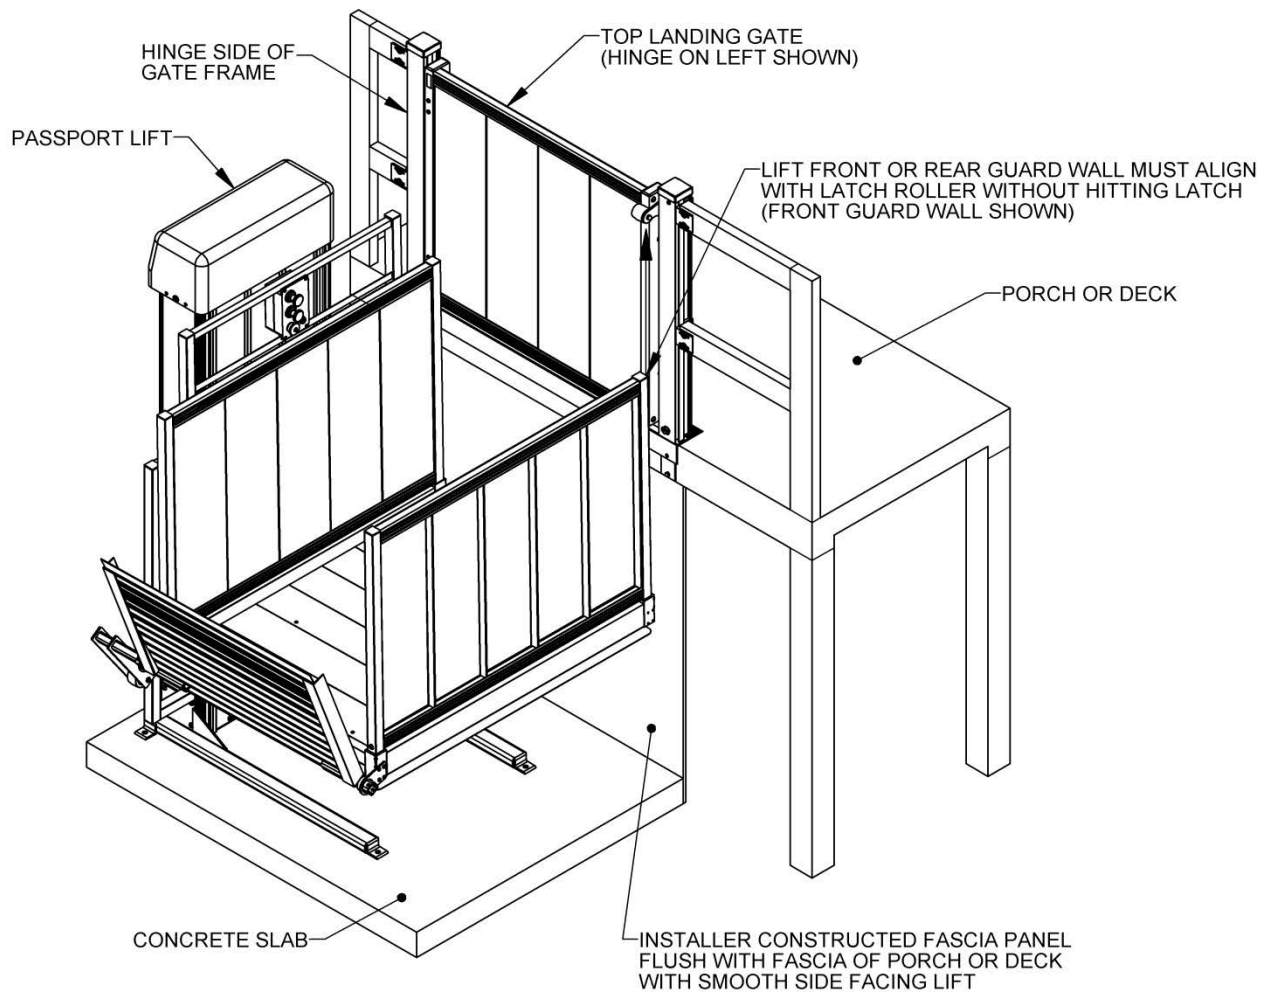

FIG. 6.1
4. Install the VPL as described elsewhere in the manual. The side of the VPL platform opposite the guard ramp must be between $\frac{3}{8}$ " and $\frac{3}{4}$ " of the porch or deck and either the front or rear guard wall of the platform aligned with the latch roller on the Top Landing Gate depending on which way the Top Landing Gate opens (FIG. 6.1).